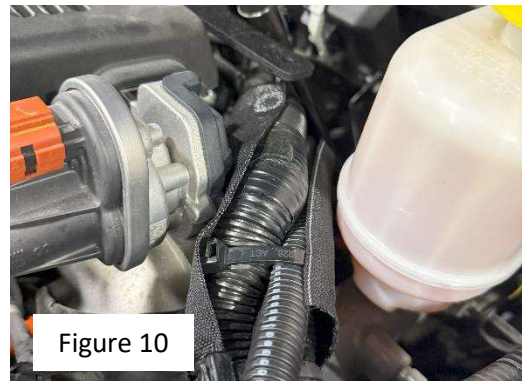

Figure 10
6. Wrap anti-chafe around the bottom of the bundle centered at the bracket (Figure 10)